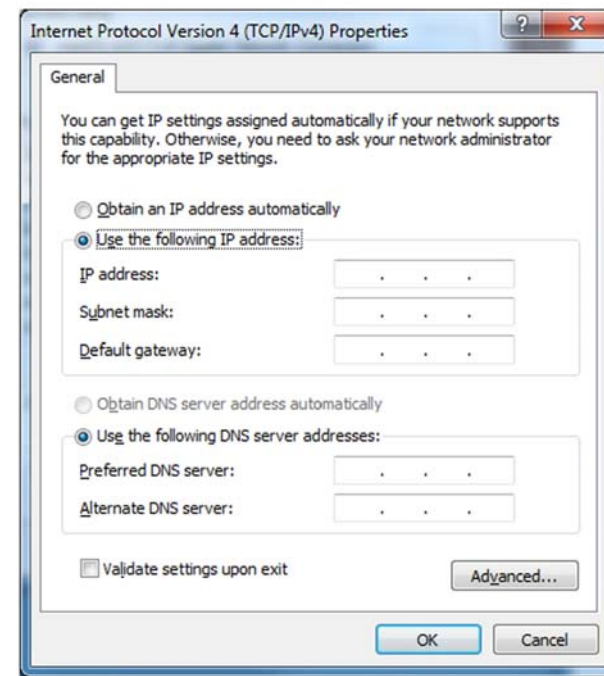

Figure 2 Properties window
6. Select Use the following IP address. Enter the IP address and subnet mask, Figure 2.